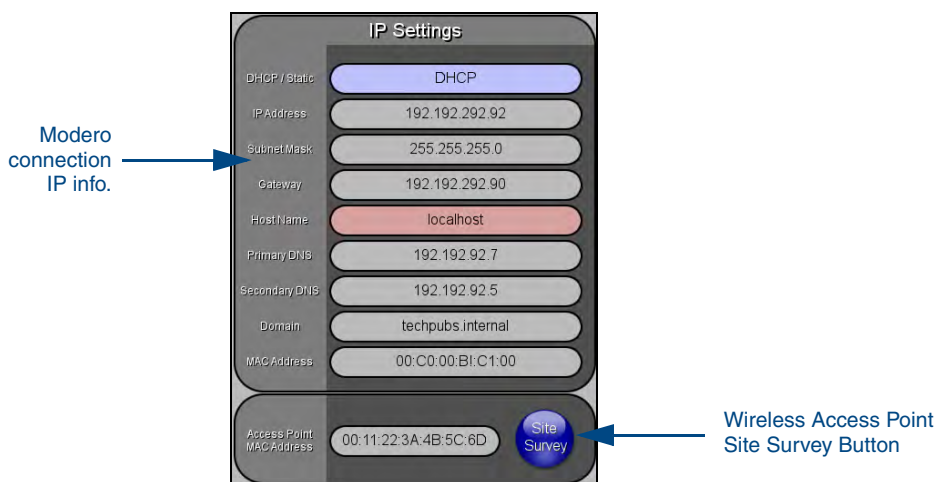

FIG. 15 Wireless Settings page (IP Settings section)
1. Select **Wireless Settings**. Wireless communication is set within the IP Settings section of this page (FIG. 15).
1. Press the **Wireless Settings** button (located on the lower-left) to open the Wireless Settings page. Wireless communication is set within the IP Settings section of this page (FIG. 15).